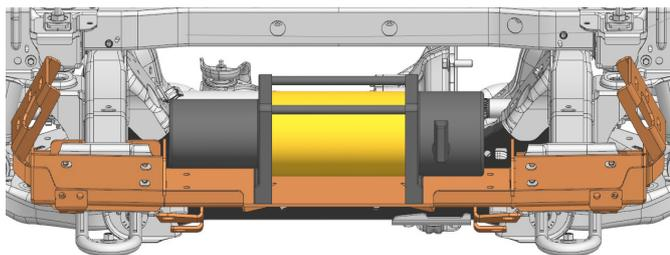

Fig.54
53. Install the winch (fig. 54).